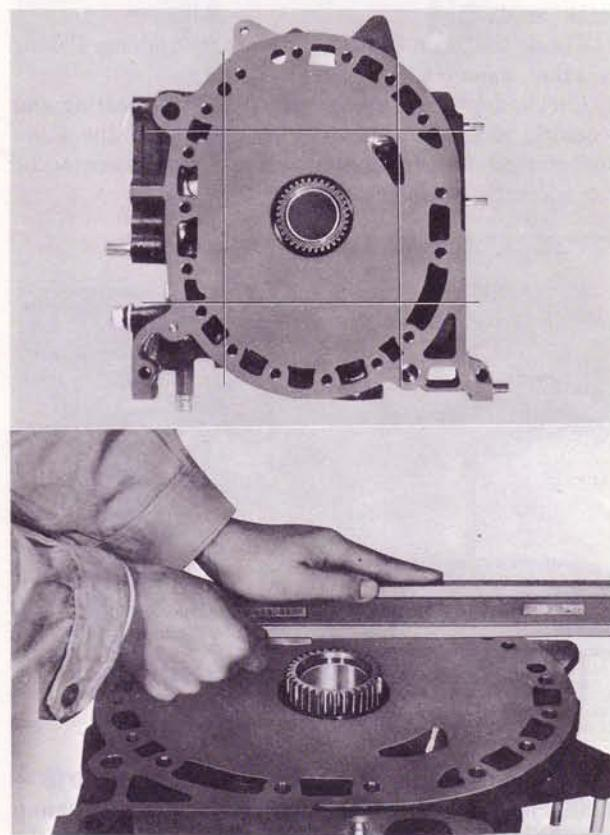

Fig. 1-27 Checking distortion
3. Check for housing distortion by placing a straight edge on the housing surface. Measure the clearance between the straight edge and the housing surface with a feeler gauge, as shown in Fig. 1-27. If the distortion exceeds **0.04 mm (0.0016 in)**, reface or replace the housing.